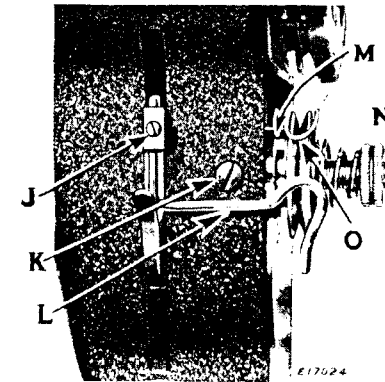

Fig. 22. Take-up Spring Adjustments
The horizontal portion of the thread pull-off (L, Fig. 22) should be set about  $\frac{1}{32}$  inch below the bottom of the set screw (K, Fig. 22) when the presser foot is raised by the presser bar lifter. The pull-off can be raised or lowered after loosening the set screw (J).